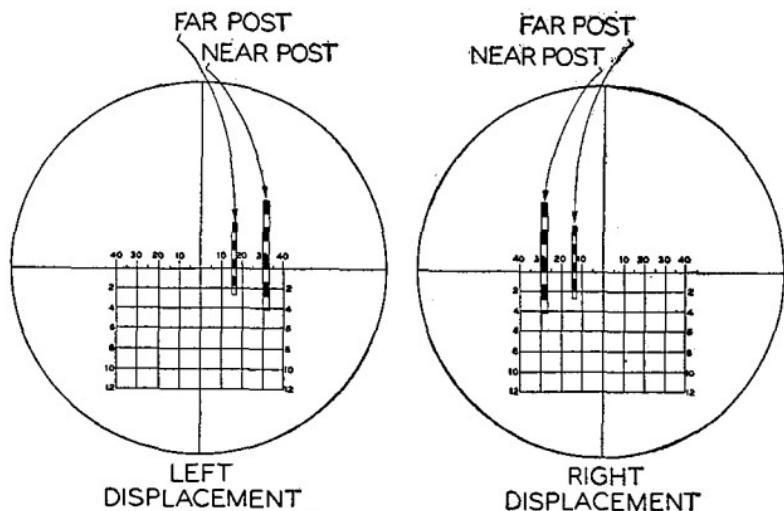

Figure 22. Displacement of aiming posts.
36. CORRECTION FOR DISPLACEMENT. When the gunner notes that the vertical hair of the telescope is displaced from the line formed by the two aiming posts (or aiming post lights), he lays in such a manner that the far aiming post (light) appears exactly midway between the near aiming post (light) and the vertical hair (fig. 22). If the displacement is due to traverse of the piece, the gunner continues to lay as described above. However, if the dis-